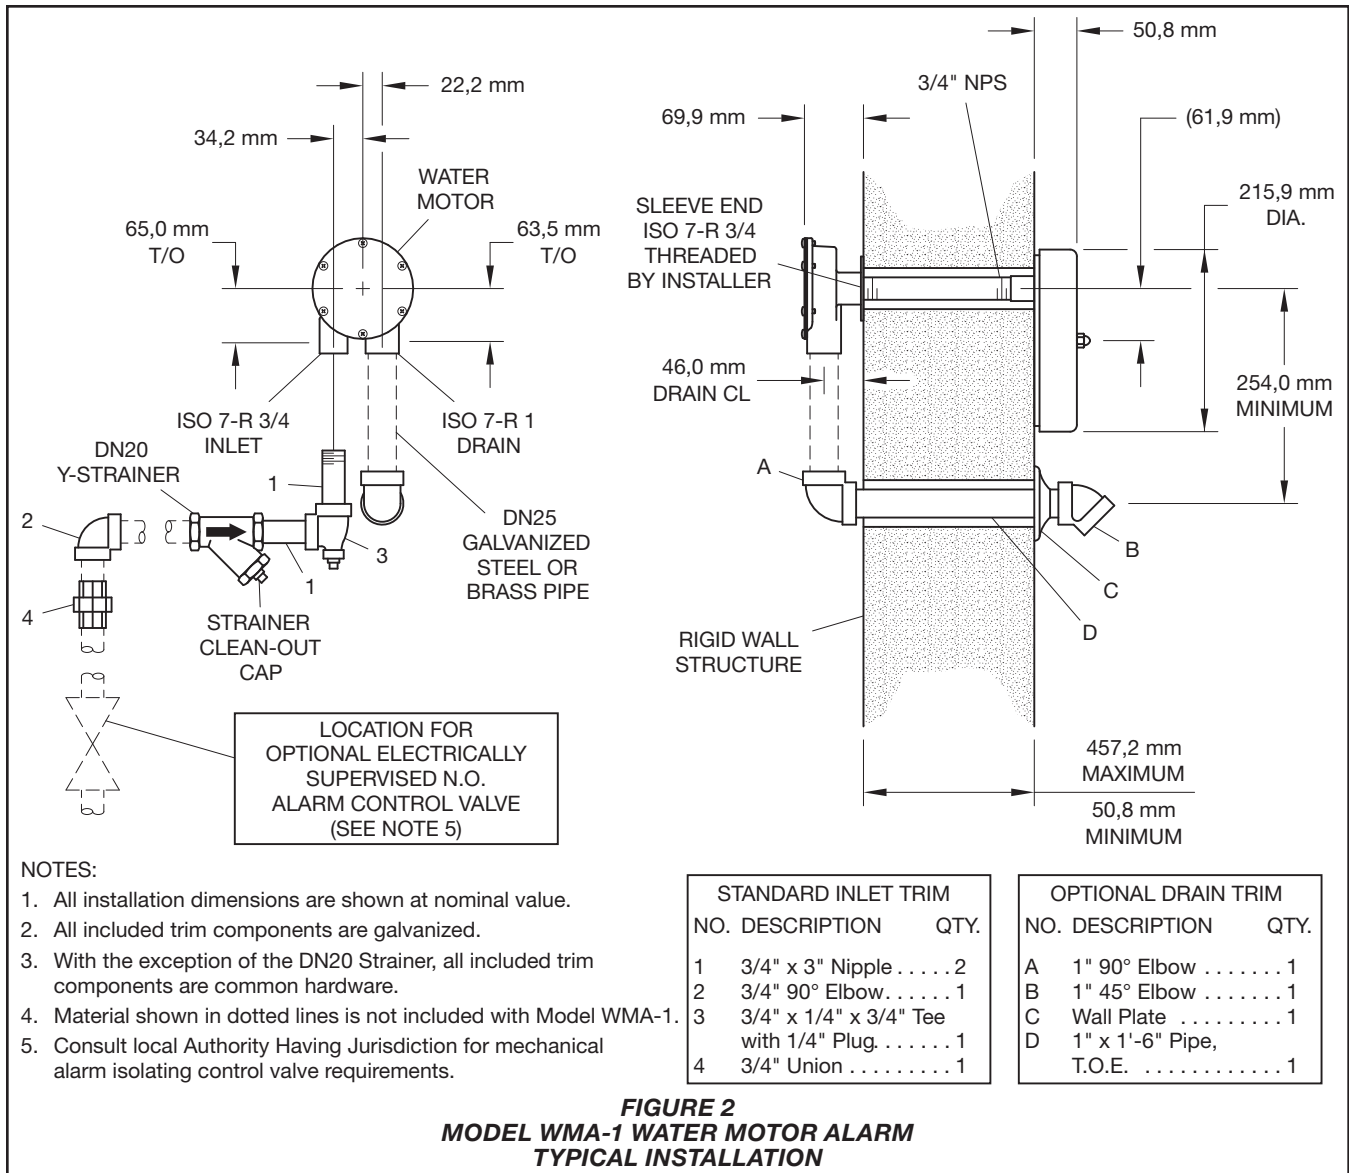

FIGURE 2
Item 1. The Y-strainer is to be located at the inlet to the Water Motor Alarm (Ref. Figure 2).
Step 1. Mark the through-wall locations for the centerlines of the Sleeve and Drain Outlet. The Drain Outlet must be located at least 250 mm below the Sleeve per Figure 2.
Step 4. Install the alarm line piping up to and including the union half (Ref. Figure 2, Item 4).